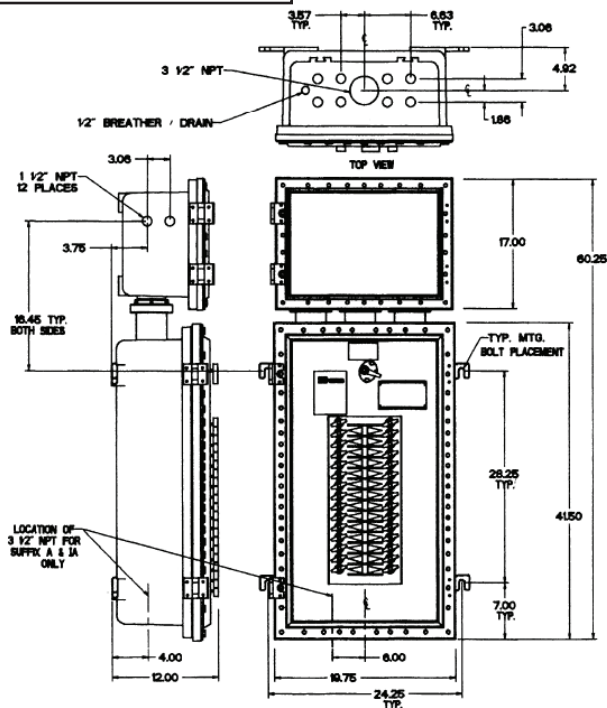

Figure 1 – D2DFA panel, mounting dimensions
1. Select a mounting location that will provide suitable strength and rigidity for supporting the panelboard and all contained wiring. Figure 1 shows the mounting dimensions. Approximate shipping weight of panelboard fully loaded with breakers is 590 lbs.
5. With panelboard securely fastened to the mounting surface, attach into conduit system. Tapped conduit openings are provided for main circuit and branch circuits as shown in Figure 1. To reduce the risk of hazardous atmospheres, conduit runs 2" size and larger must have a sealing fitting connected within 18" of the enclosure. Use explosionproof RE reducers for conduit smaller than tapped opening.